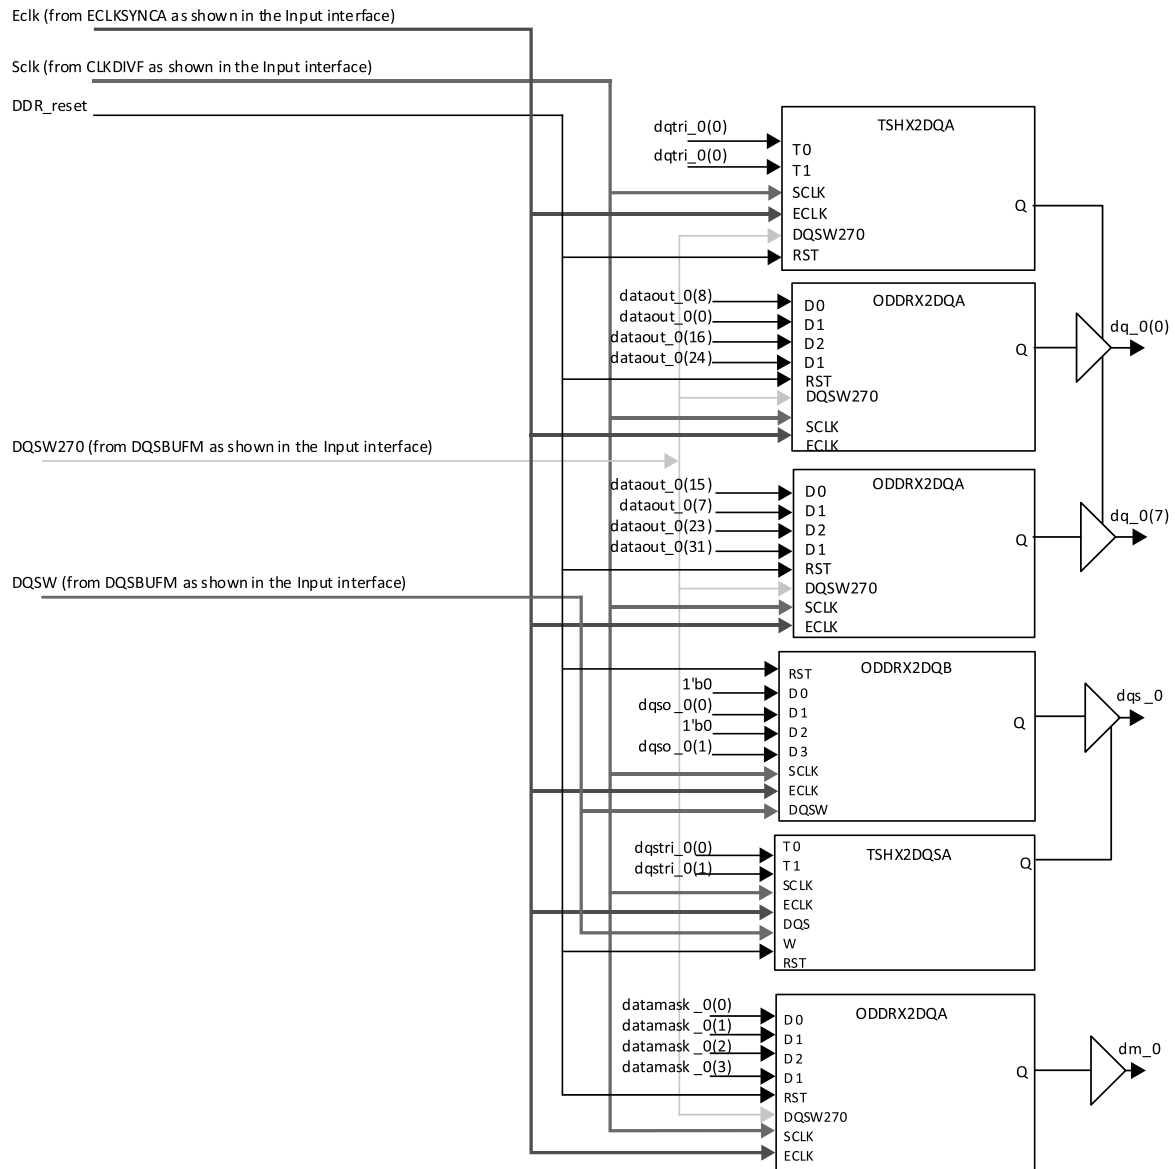
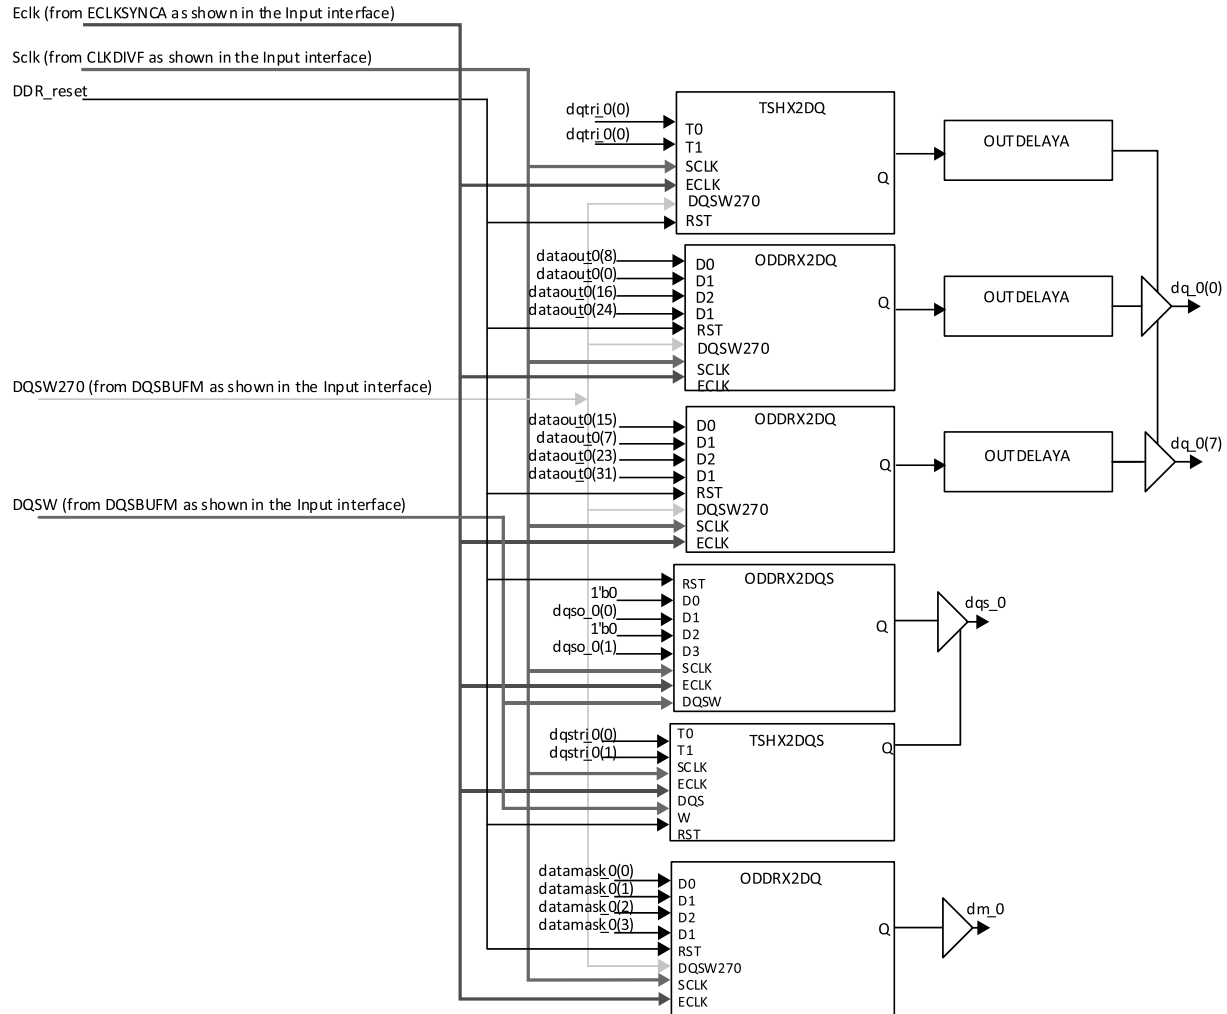

Figure 6.10. DDR3/DDR3L and LPDDR2 Write Side (DQ, DQS, and DM)
Figure 6.11. LPDDR4 Write Side (DQ, DQS, and DM)
Figure 6.10 and Figure 6.11 show the DDR3/DDR3L and LPDDR2/LPDDR4 memory interface write side implementation to generate DQ, DQS, and DM outputs.
- One tri-state is shown in Figure 6.10 and Figure 6.11. The software generates one tri-state element for each DQ port.